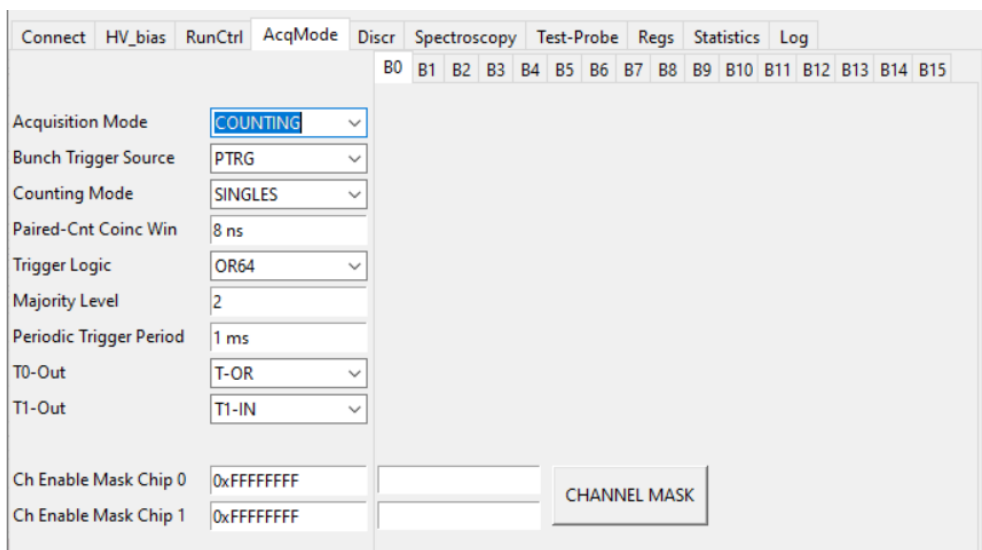

Fig. 10.32: The AcqMode tab with the settings used to perform a test in Counting Mode.
2. The counting intervals (or slots) are defined by the "Bunch Trigger Source" parameter. In this example, the "PTRG" option is chosen to define the counting intervals (with 1 ms period) as showed in Fig. 10.32.